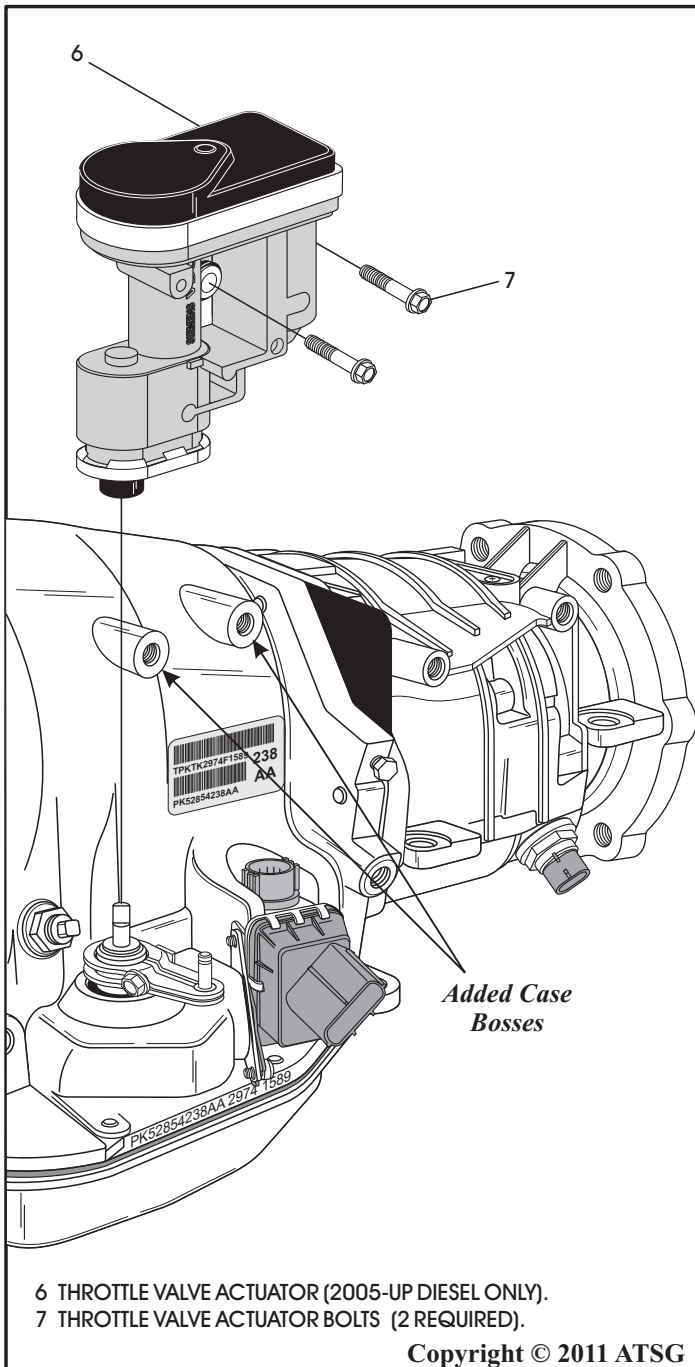

Figure 59
5. Remove two retaining bolts and the transmission throttle valve actuator (TTVA), by lifting off of the throttle shaft, as shown in Figure 59.